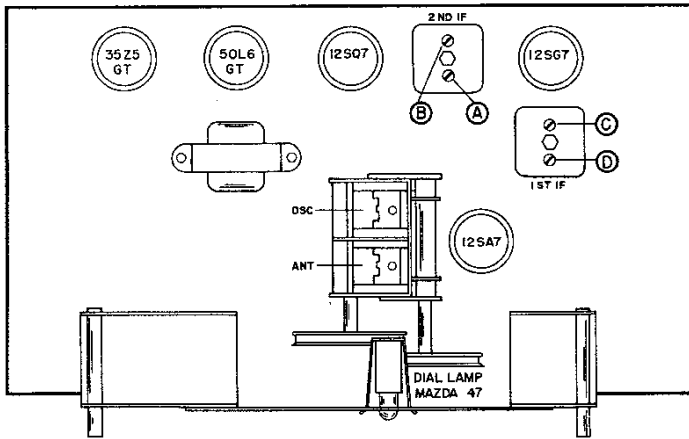

Fig. 3. Top View of Chassis Showing Location of Alignment Adjustments, Tubes and Dial Lamp
TUBE AND DIAL LAMP REPLACEMENT - Refer to Fig. 3 for the location of the tubes and dial lamp used in the receiver. To gain access to the tubes and lamp, remove the back cover from the cabinet. Before attempting to make any replacement, set the BAND SPREAD control fully counterclockwise and the TUNING control fully counterclockwise to prevent damage to the tuning gang. To replace a tube, insert the center guide pin into the center hole of the tube socket, rotate the tube until the key drops into position and then push down until the tube is held firmly in the socket. To make a dial lamp replacement, remove the dial lamp socket by compressing the side springs. Make replacement only with a type 47 pilot lamp.
- See Figs. 3 and 4 for location of alignment adjustments.